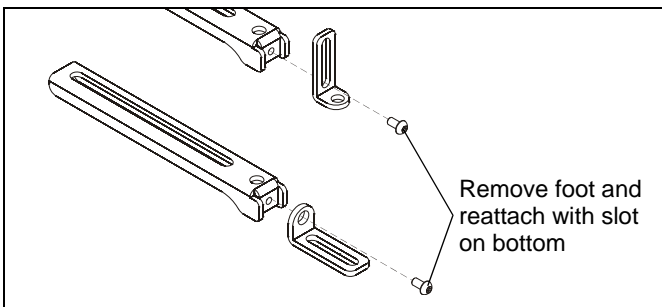

Figure 6
3. Loosen screw and adjust foot that is attached to adjustable leg. The foot may be removed and reattached to allow more adjustment, if necessary. (See Figure 6)